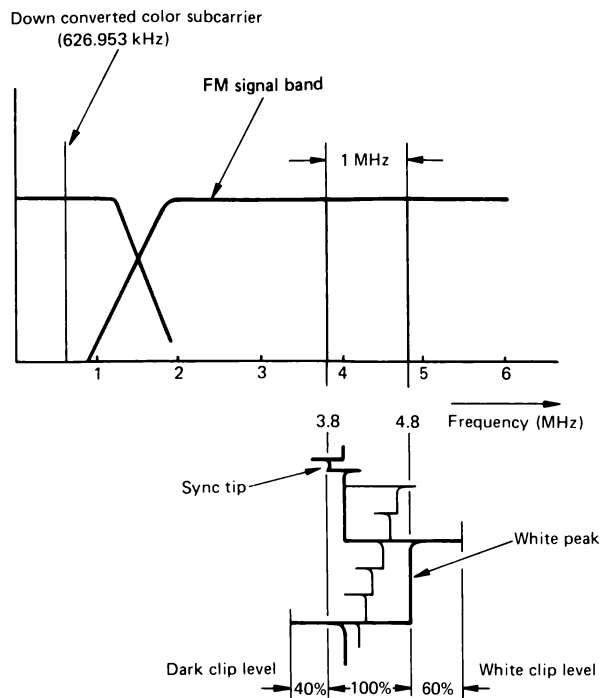

Fig. 1-6 Recording spectrum
1.3.3 White and Dark Clip Level (See Fig. 1-6.)
1.3.4 FM Carrier Frequency and Deviation (See Fig. 1-6.)
As indicated in Fig. 1-6, when the video input is a color TV signal, it goes through an HPF for vacating the area for the down converted color signal. With some VHS models, when the input is a B/W TV signal, the HPF can be bypassed to extend the bandwidth to the DC area.